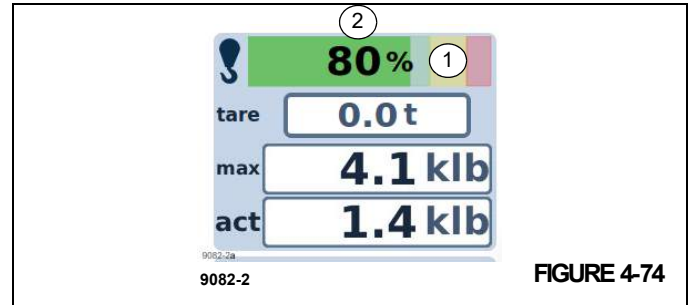

FIGURE 4-74
The degree of utilization shows the weight of the current load as a percentage of the maximum possible load. Display (2), (Figure 4-74) shows the percentage value. Display (1) shows the ranges in different colors: